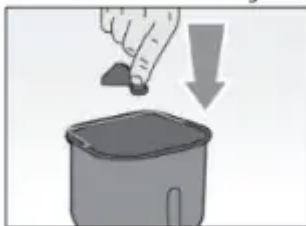

Figure 2
- Mount the kneading blade on the pin inside the pan, place kneading blade on pin, with the arrow of the blade pointing up, pushing down as far as it will go, making sure flat surfaces are lined up. (Fig 2)